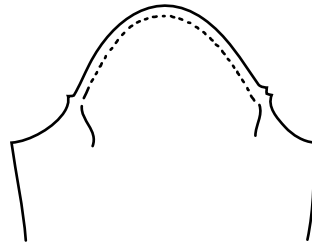

Figure 5
1. Using an ease stitch, which is generally eight to 10 stitches per inch, sew on the seam line around the cap of the sleeve between the notches. Be sure to leave at least 1½ inch thread ends at each end of the stitching to assist with easing in a later step (Figure 5). The weight of the fabric will determine the number of stitches per inch to use. Generally, the finer the fabric, the smaller the stitch. When sewing single fabric thickness, it is sometimes necessary to adjust thread tension slightly. Always follow the instructions given in your sewing machine manual. It is important to sew directly on the ⅝-inch seam line as this will also serve as an important guide for stitching when placing the sleeve into the armhole.